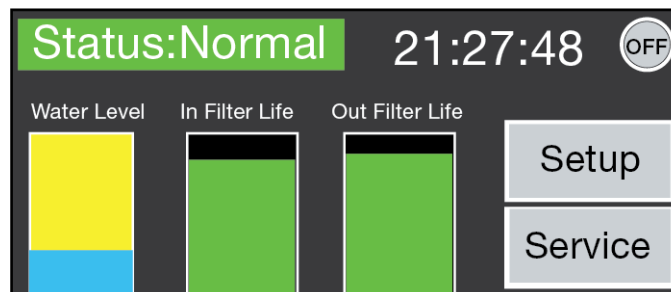
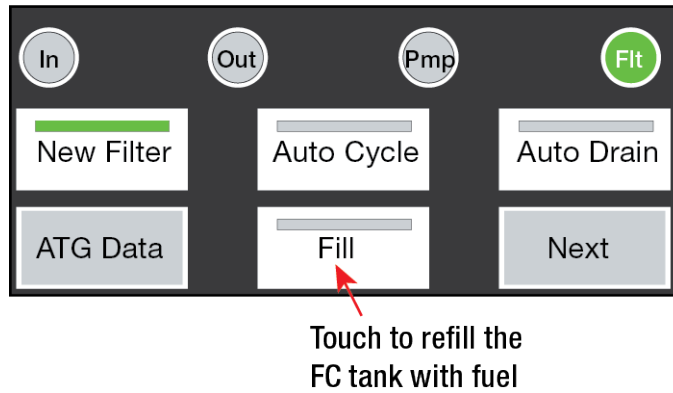

Figure 7. FCC Display Home Screen
Figure 8. FCC Service Home Screen
1. At the Fuel Conditioning Controller Display Home screen, touch the Service button (Figure 7) to open the FCC Service Home screen (see Figure 8).